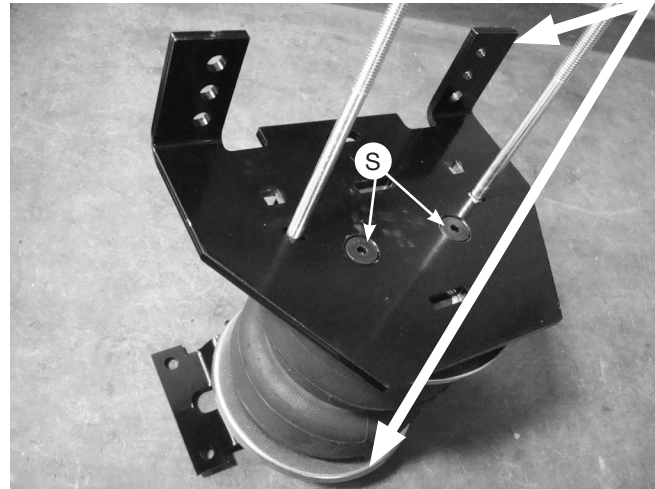

Fig. 12
Set the lower bracket main plate assemblies onto the air springs with the roll plates installed. Attach with 3/8"-24 X 3/4" flat-head socket-cap screws (S) (Fig. 12). Torque the hardware to no more than 20 lb.-ft. (27Nm).